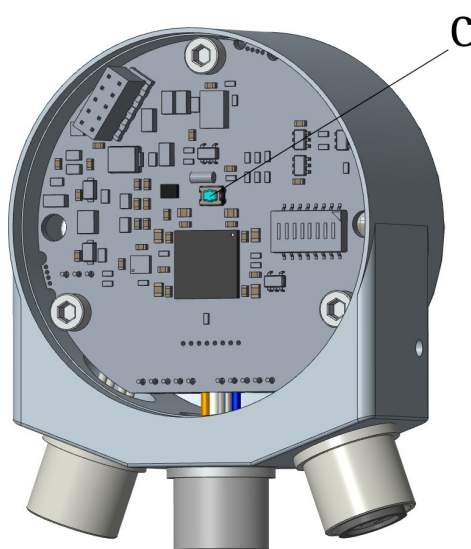

Figure 7 - Tactile switch
4.10 Tactile switch (Figure 7)